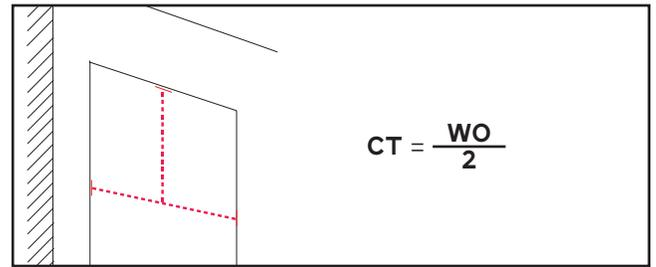

Figure 5
Find where the center of your track (CT) will be placed by measuring the window opening (WO) and divide by two. See Figure 5.